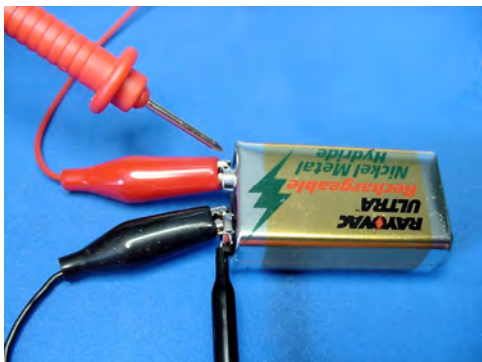

Figure 11-4. Black probe hooked onto negative battery terminal. Red probe can be moved freely.
3. With the black alligator clip still attached, connect the multimeter's black test probe hook to the negative terminal of the 9 V battery (see Figure 11-4). The black test probe will stay there as you touch the red test probe tip to various other locations on the circuit.